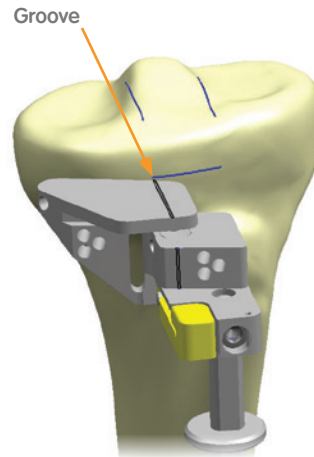

Figure 26
- Mate the Datum Block to the anterior tibia by making the groove roughly in line with the medial marking from the tibia sizing template (Figure 26).